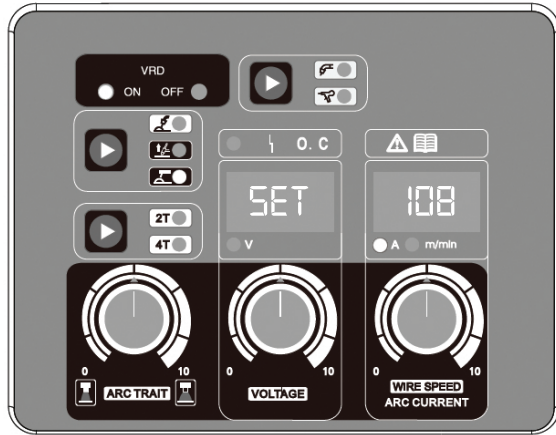

FIGURE 2A
- Press the button (5) until the STICK LED lights up.
- By turning the knob (1) it is possible to change the current during the welding process and display the value on the display (10).
- **VRD enable / disable:** set the current on 108A by turning the knob (1), keep the 2T / 4T button (4) pressed to enable / disable the VRD function;
- The display (10) shows the preset current "108", its unit of measure is ampere (A). (Figure 2A,B)